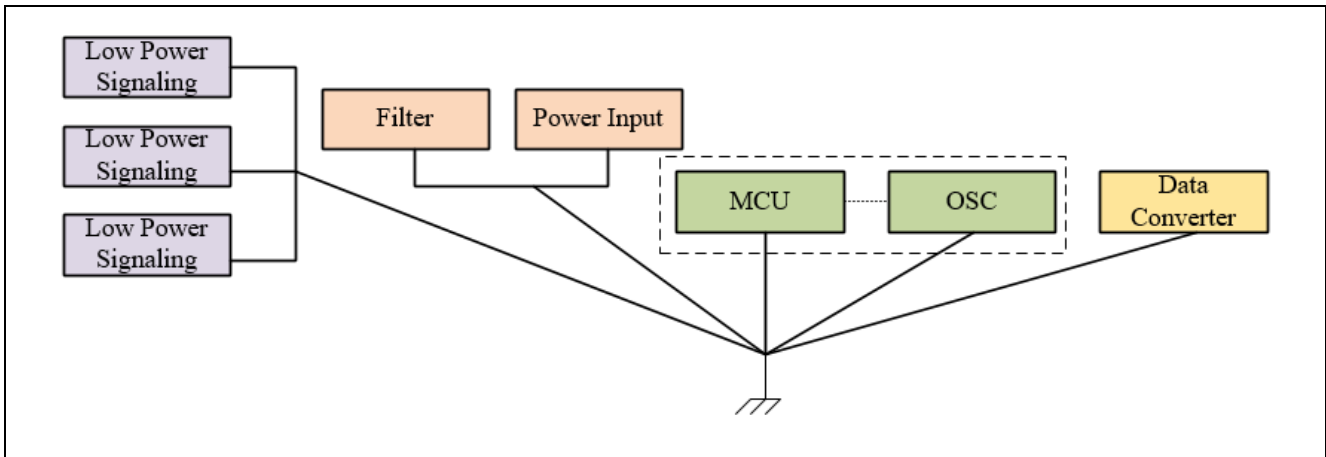

Figure 2. Hybrid single point return path
- Figure 2 shows a hybrid single point return path in which sections of the circuit with a common function, such as digital electronics, or an MCU and oscillator, are referenced together.